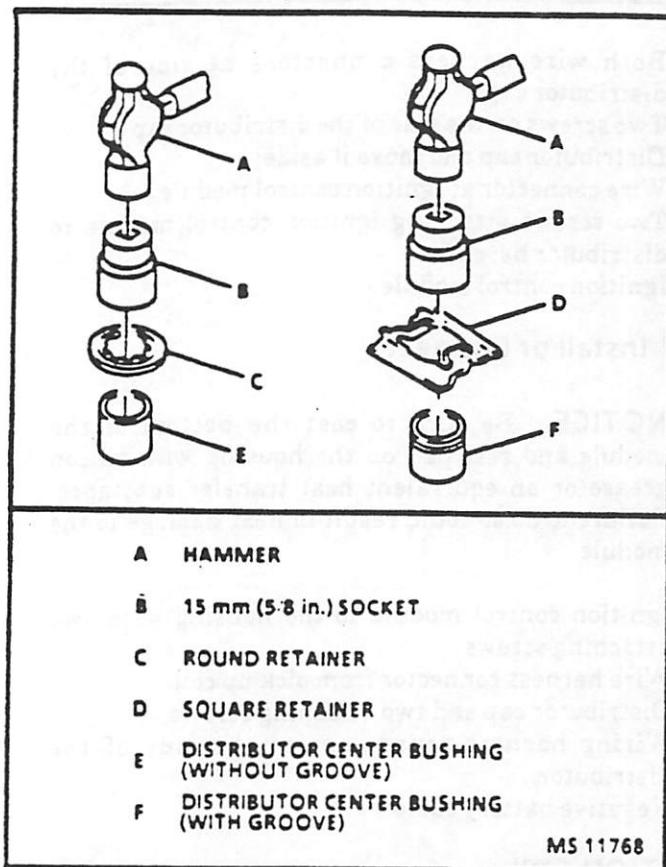

Figure 12 - Retainer to Shield Installation
1. Ignition module (10) to the housing (4) with two screws.
2. Pickup coil (7).
4. Shield (6) onto the coil.
5. Retainer (5) onto the housing (Figure 12).
6. Shaft assembly (4) into the housing (11).
7. Tang washer (12), washer (13), and driven gear (14) onto the bottom of the shaft.
8. Roll pin (15) into the gear.
9. Rotor (3) onto the shaft.